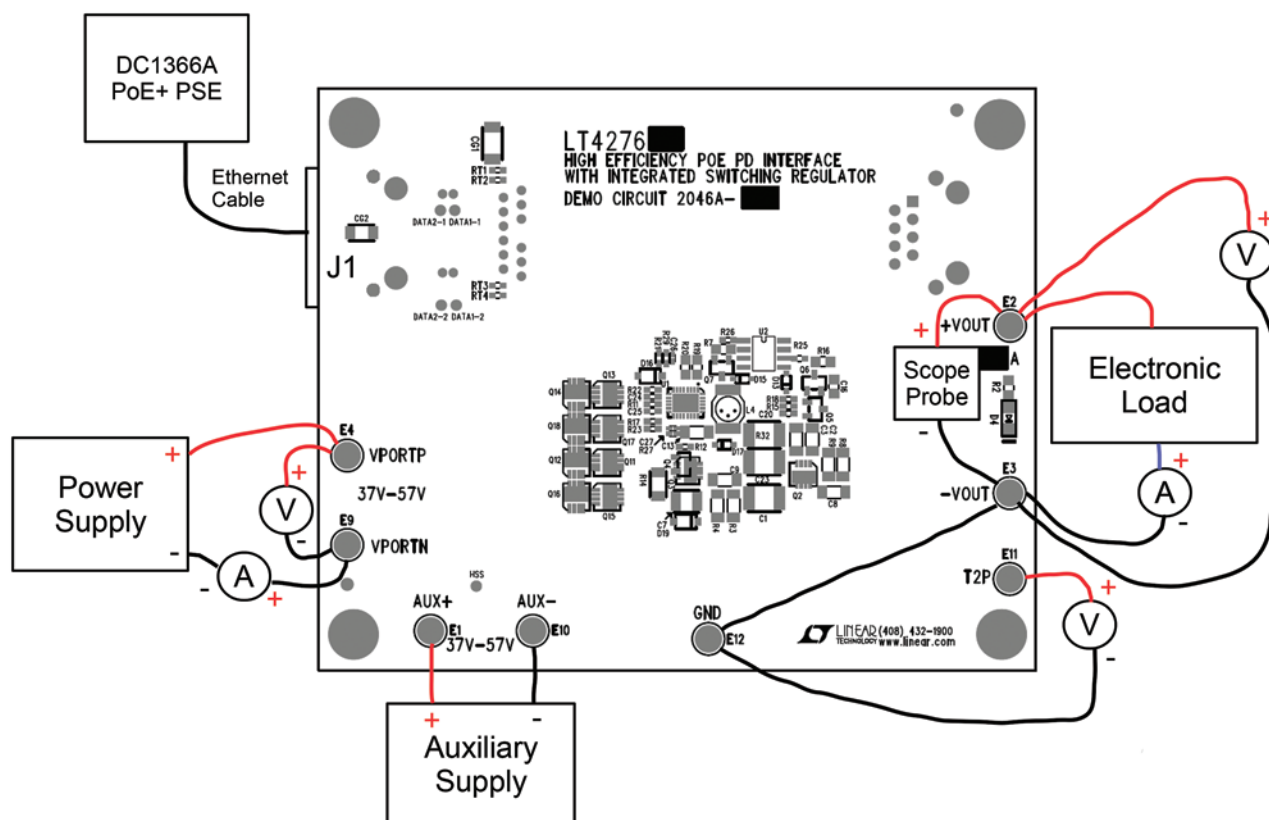

Figure 8. Proper Measurement Equipment Setup
Demonstration circuit 2046A-B is easy to set up to evaluate the performance of the LT4276 in a PoE+ application. Refer to Figure 8 for proper equipment setup and follow the procedure below.
1. Place test equipment (voltmeter, ammeter, power supplies, and electronic load) as shown in Figure 8.
- Connect a PoE+ capable PSE with a CAT-5 cable to the RJ45 connector, J1. See Figure 8.
- Or, connect a 37V to 57V capable power supply (Power Supply in Figure 8) across V_{PORTP} and V_{PORTN} .
- If evaluating the auxiliary power supply (Auxiliary Supply in Figure 8), connect a 37V to 57V capable power supply across $AUX+$ to $AUX-$.